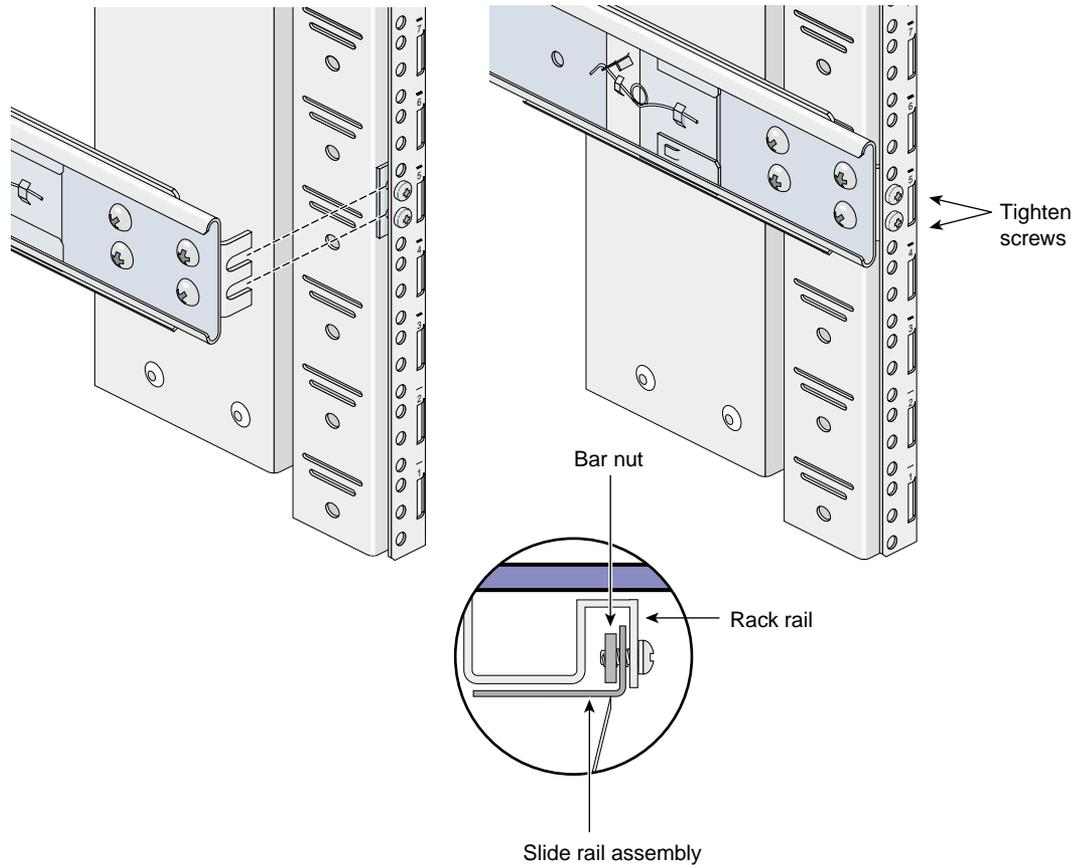

Figure C-6 Attaching the Slide Rail to the Rack
5. Insert the front and rear brackets of one of the slide rails between the rack rails and the bar nuts, as shown in Figure C-6.